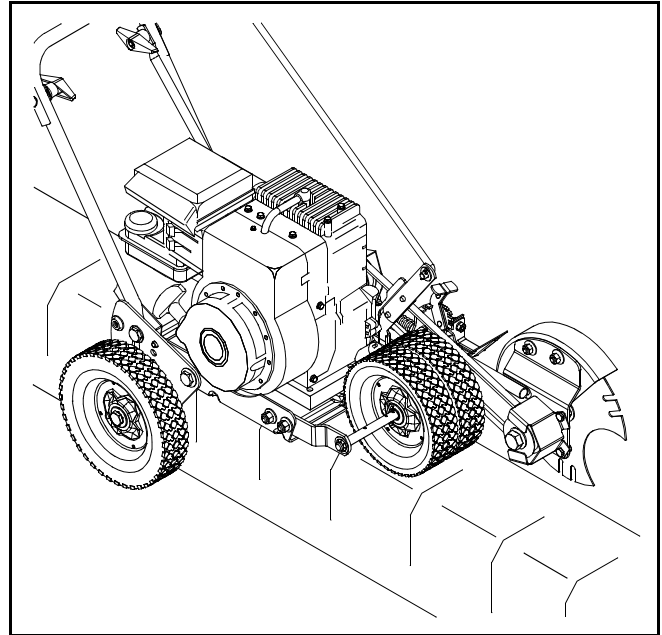

Figure 14
- Release the curb height adjustment lever to lock the wheel in position. See Figure 14.